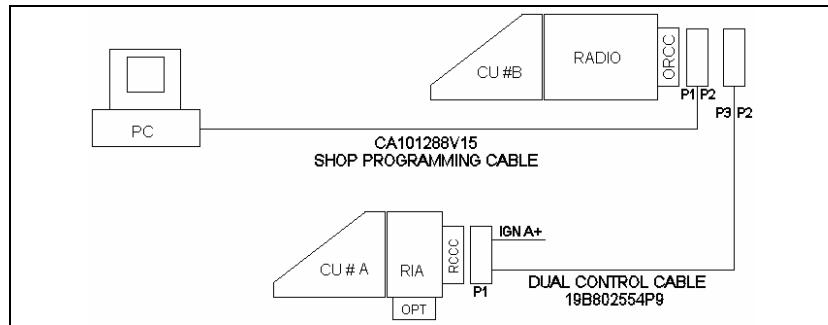

Figure 11-3: M7100 Dual Control Unit PC Programming Configuration
5. Connect the Front Mount Radio and the Auxiliary Control Unit together with ProGrammer, as shown in Figure 11-3.